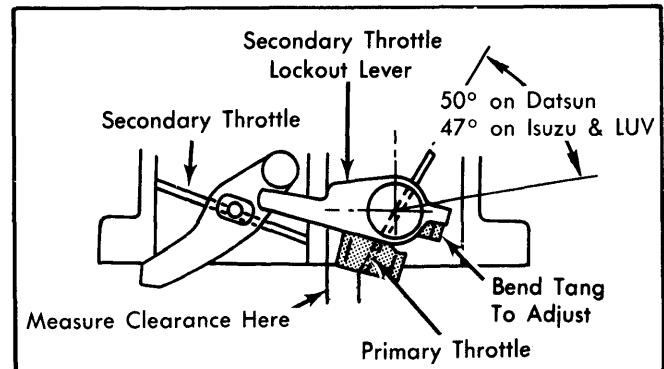

**Fig. 5 Datsun Choke Unloader Adjustment**
2) Measure clearance between choke plate and air horn wall. Clearance should be as specified in table. Bend unloader tang to adjust. See Fig. 5.